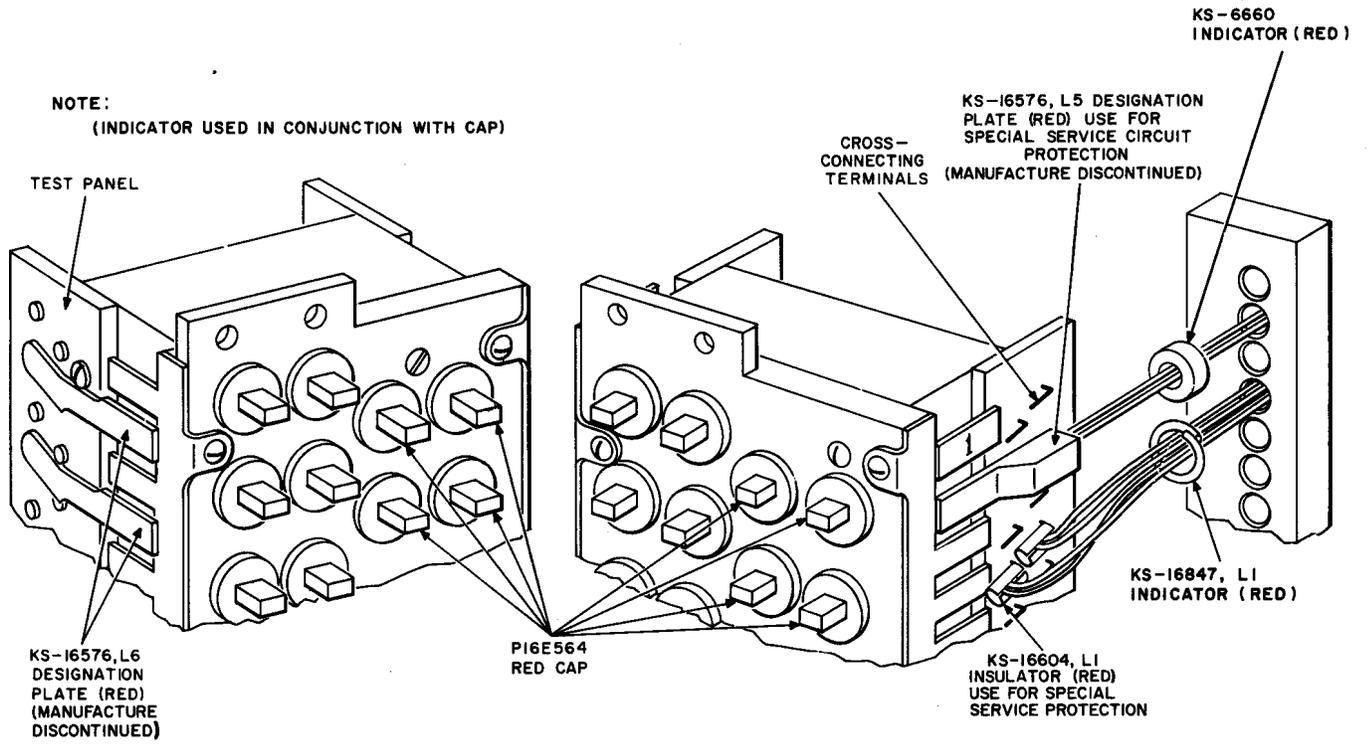

Fig. 12—Protection of Special Service Lines—Typical 300-Type Connector
5.04 The KS-16604, L1 terminal punching insulators (red), and the KS-6660 or KS-16847, L1 indicator (red) are used to protect special service lines on 300-type connectors (Fig. 12). The KS-16604, L1 is used where double wrapped (back-tapped) cross connections are connected to the terminals.
5.05 The older (MD) KS-16576, L5 designation plate is for use on the cross-connection side of the connector where a single cross-connection is connected to the terminals (Fig. 12). If the connector has aluminum fingers, the designation plate should be slipped on with movement toward the front. On connectors with molded ribs, the designation plate should be snapped on with movement toward the rear. The (MD) KS-16576, L6 designation plate is for use on the test terminal side of the connector.